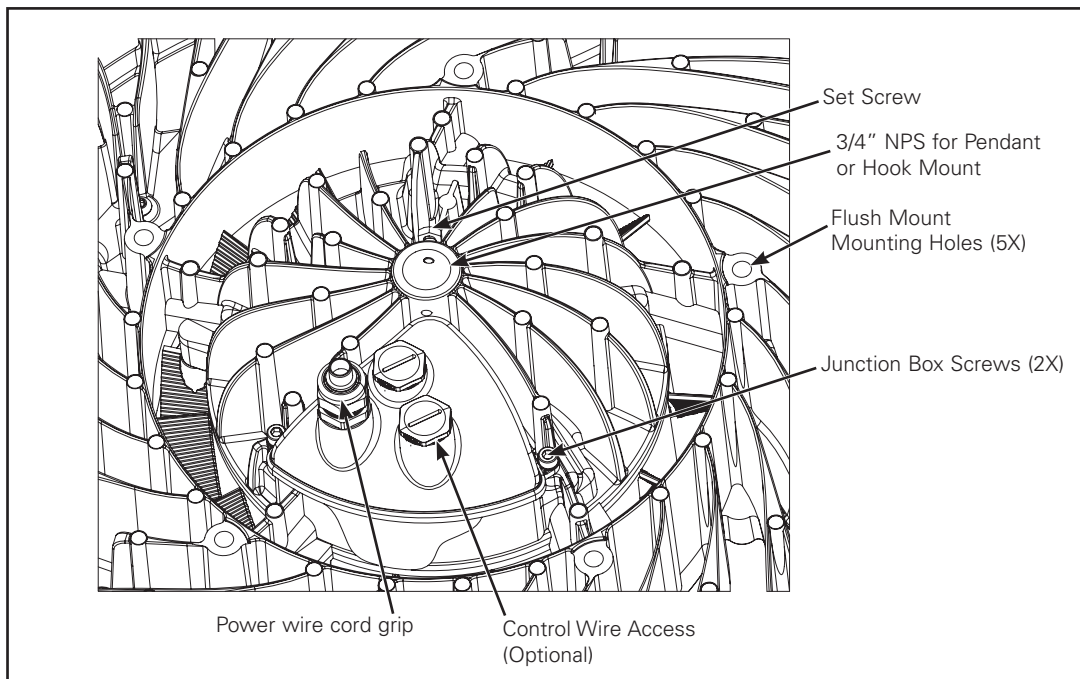

Figure 2.
1. Remove the two junction box screws using a 3/16" hex Allen wrench (Figure 2).